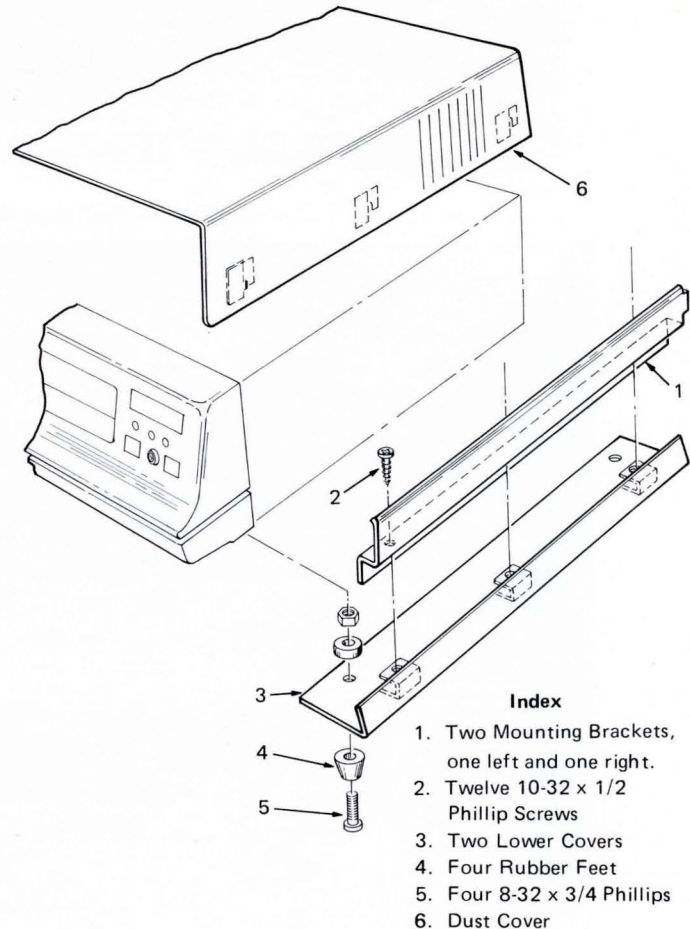
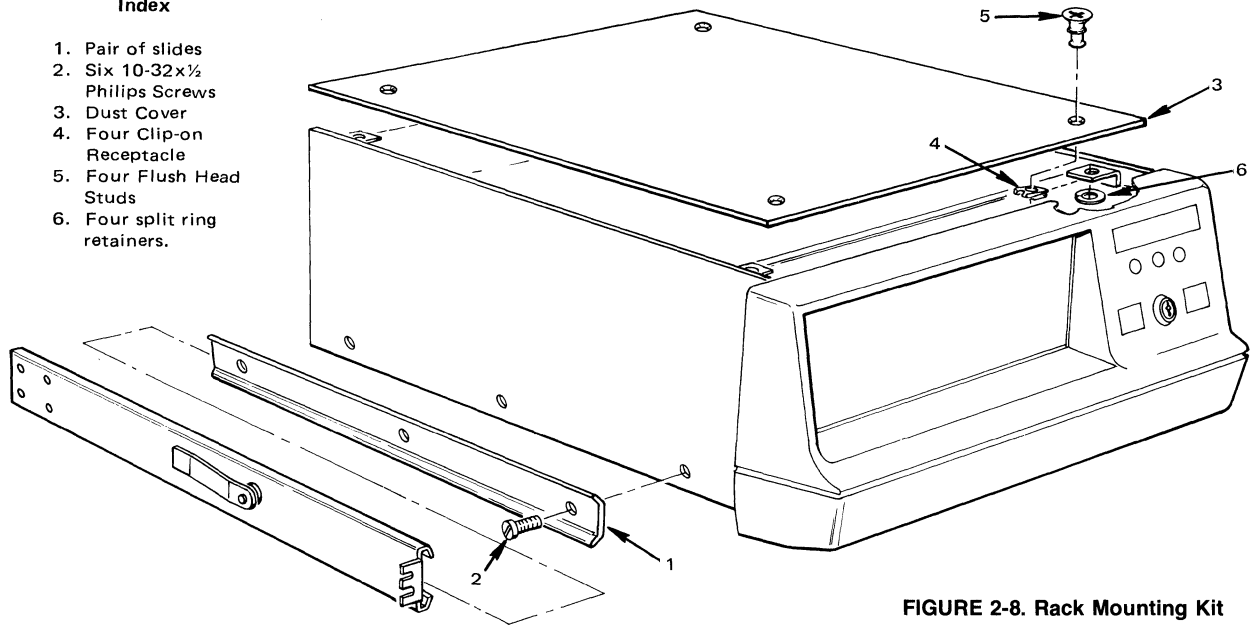

FIGURE 2-7. Table Top Kit
FIGURE 2-8. Rack Mounting Kit
The following procedures discuss converting the EXORciser from its table top version to its rack mounted version. Figure 2-7 depicts an exploded view of the table top kit and Figure 2-8 depicts an exploded view of the rack mounting kit.
- (a) Remove the Table Top Kit from the EXORciser in the reverse order of the index numbers in Figure 2-7.
- (b) Install the Rack Mounting Kit onto the EXORciser in the sequence of the index numbers in Figure 2-8.
The following procedures discuss converting the EXORciser from its rack mounting version to its table top version. Figure 2-7 depicts an exploded view of the table top kit and Figure 2-8 depicts an exploded view of the rack mounting kit.
- (a) Remove the rack mounting kit from the EXORciser in the reverse order of the index numbers in Figure 2-8.
- (b) Install the table top kit onto the EXORciser in the sequence of the index numbers in Figure 2-7.